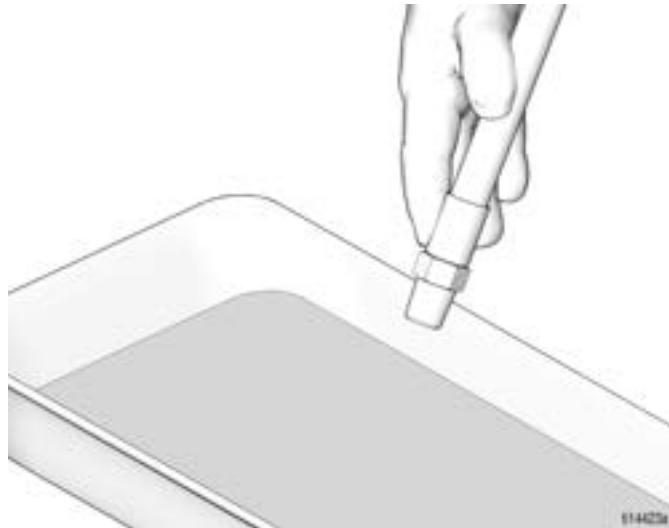

Fig. 2
1. Place the end of the hose into a grounded metal waste container. Hold the hose firmly against the waste container throughout the flushing process (FIG. 2).